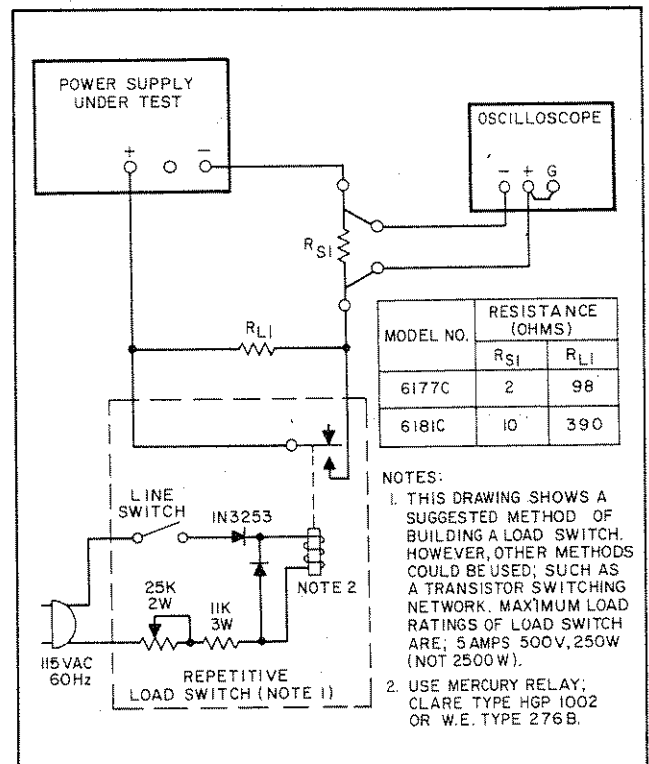

Figure 5-5. Load Transient Recovery Time, Test Setup
5-27 A mercury-wetted relay, as connected in the load switching circuit of Figure 5-5 should be used for loading and unloading the supply. When this load switch is connected to a 60Hz ac input, the mercury-wetted relay will open and close 60 times per second. Adjustment of the 25K control permits adjustment of the duty cycle of the load current switching and reduction in jitter of the oscilloscope display.
- Connect test setup shown in Figure 5-5.